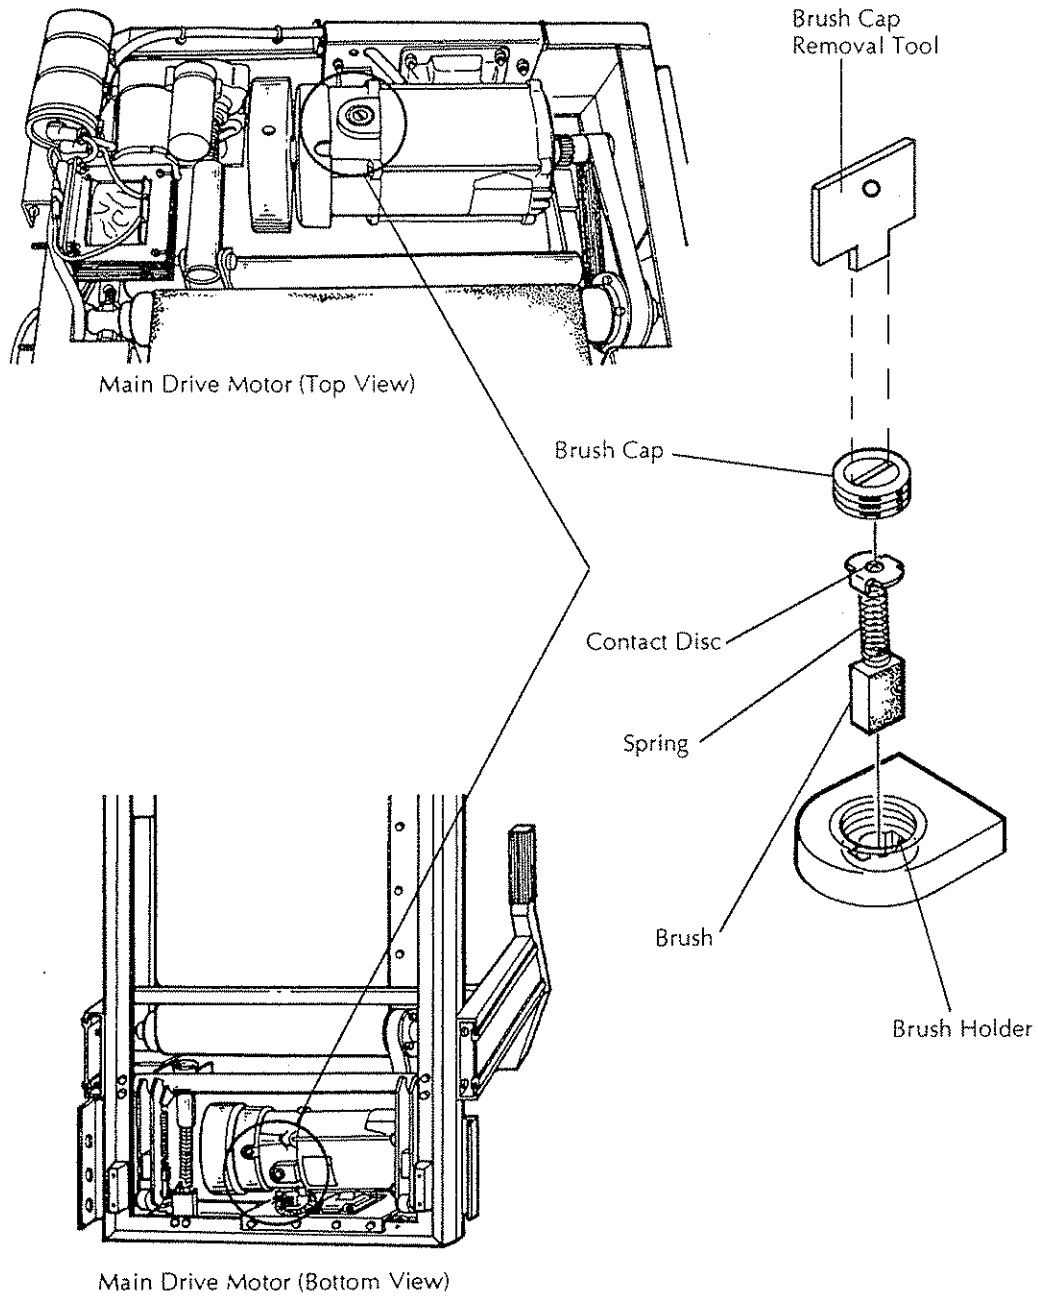

Figure 5-18: Replacing the Main Motor's Brush Assemblies
3. Determine which brush assembly is being replaced, upper or lower. See Figure 5-18.
4. Unscrew and remove the main motor's upper brush cap, using the brush cap removal tool. See Figure 5-18.
5. Carefully pull out the brush assembly from the main motor brush holder. See Figure 5-18.
6. Examine the brush cap, brush, spring, and contact disc for signs of wear such as arcing, pitting, or burning. Replace any item which shows signs of excessive wear and/or is cracked or broken. See Figure 5-18.
7. Slide the motor brush (new or original) into the motor brush holder. Make sure that the brush wire doesn't become entangled in the spring. See Figure 5-18.
8. Install the brush cap. Refer to Figure 5-18 and complete the following:
11. Unscrew and remove, using the brush cap removal tool, the main motor's lower brush cap. See Figure 5-18.